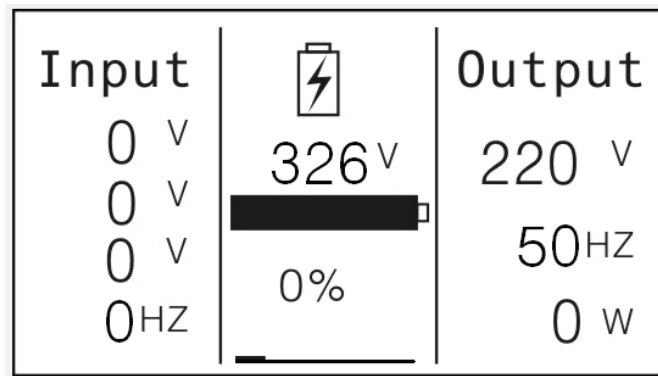

Fig. 4-4
- 3) A few seconds later, the UPS turns into Battery mode (Fig. 4-4).